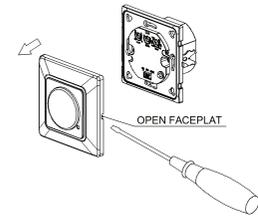

Fig 1
- Open the Square Sense faceplate and adjust the time and Lux knob (figure 1).